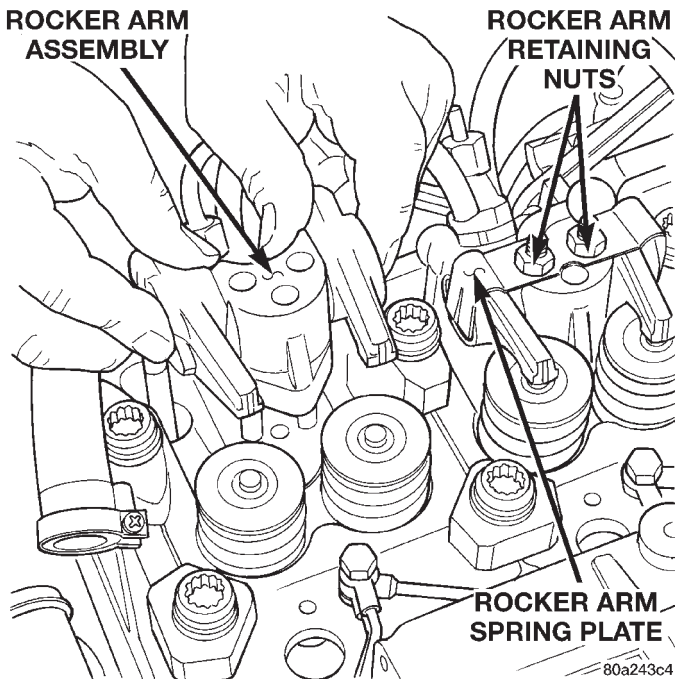

Fig. 15 Rocker Arm Retaining Nut
- (1) Disconnect the battery cables.
- (2) Discharge the air conditioning system, if equipped (refer to Group 24, Heating and Air Conditioning for service procedures).
- (3) If equipped with air conditioning, remove the service valves and cap the compressor ports (refer to Group 24, Heating and Air Conditioning).
- (4) Remove generator bracket.
- (5) Remove breather hose.
- (6) Remove cylinder head cover.
- (7) Remove rocker retaining nut (Fig. 15).